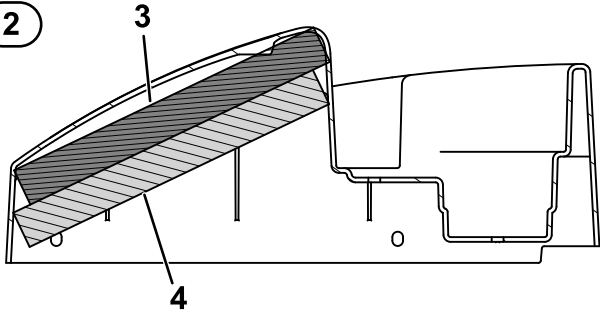

Figure 16
Figure 16 shows a top and cutaway (side) view of the foam installed in the cover.
- 7. Install the lower brake-cover foam onto the upper brake-cover foam (Figure 15 and Figure 16).